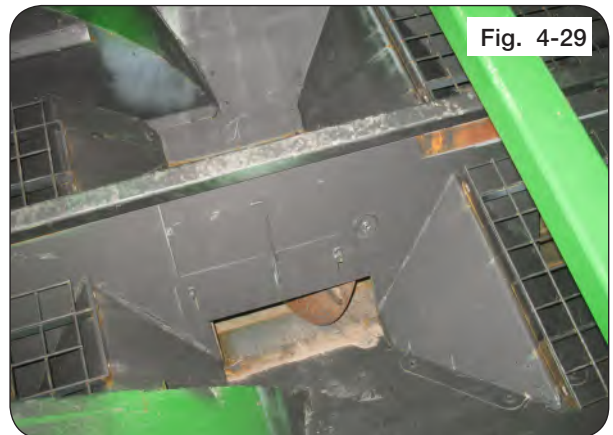

Fig. 4-29
2. Remove the bolts in both middle grates inside the cart. Remove the grates. (Figure 4-29)